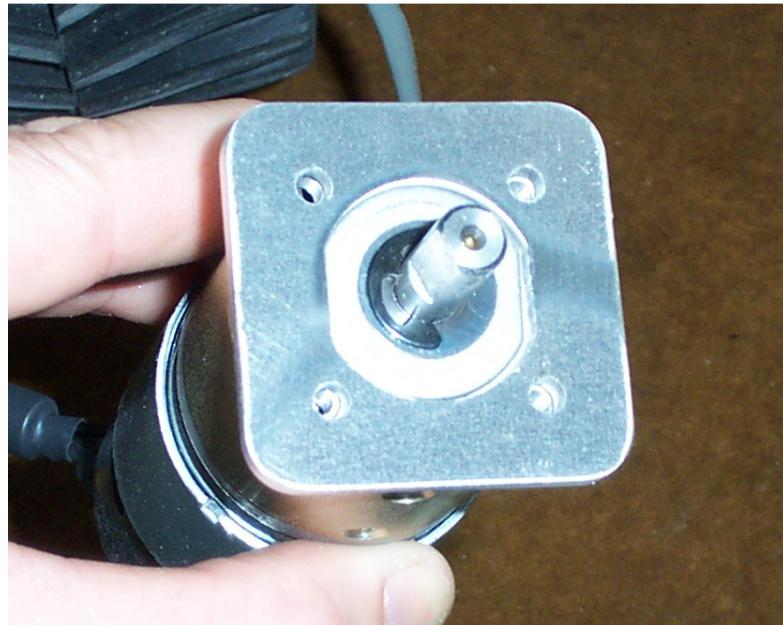

Figure 19: Motor Spacer Plate
1. The motors need a motor spacer plate between them and the slots cut out in the ATR. Refer to Figure 19.